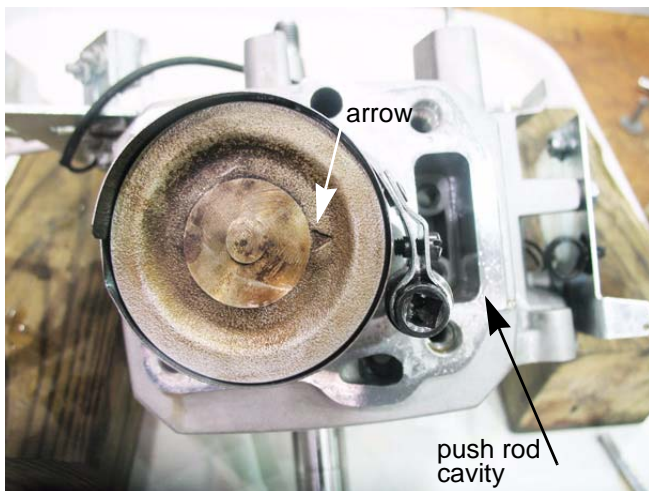

Figure 10.23
**NOTE:** The arrow on the piston must point towards the push rod cavity. See Figure 10.23.